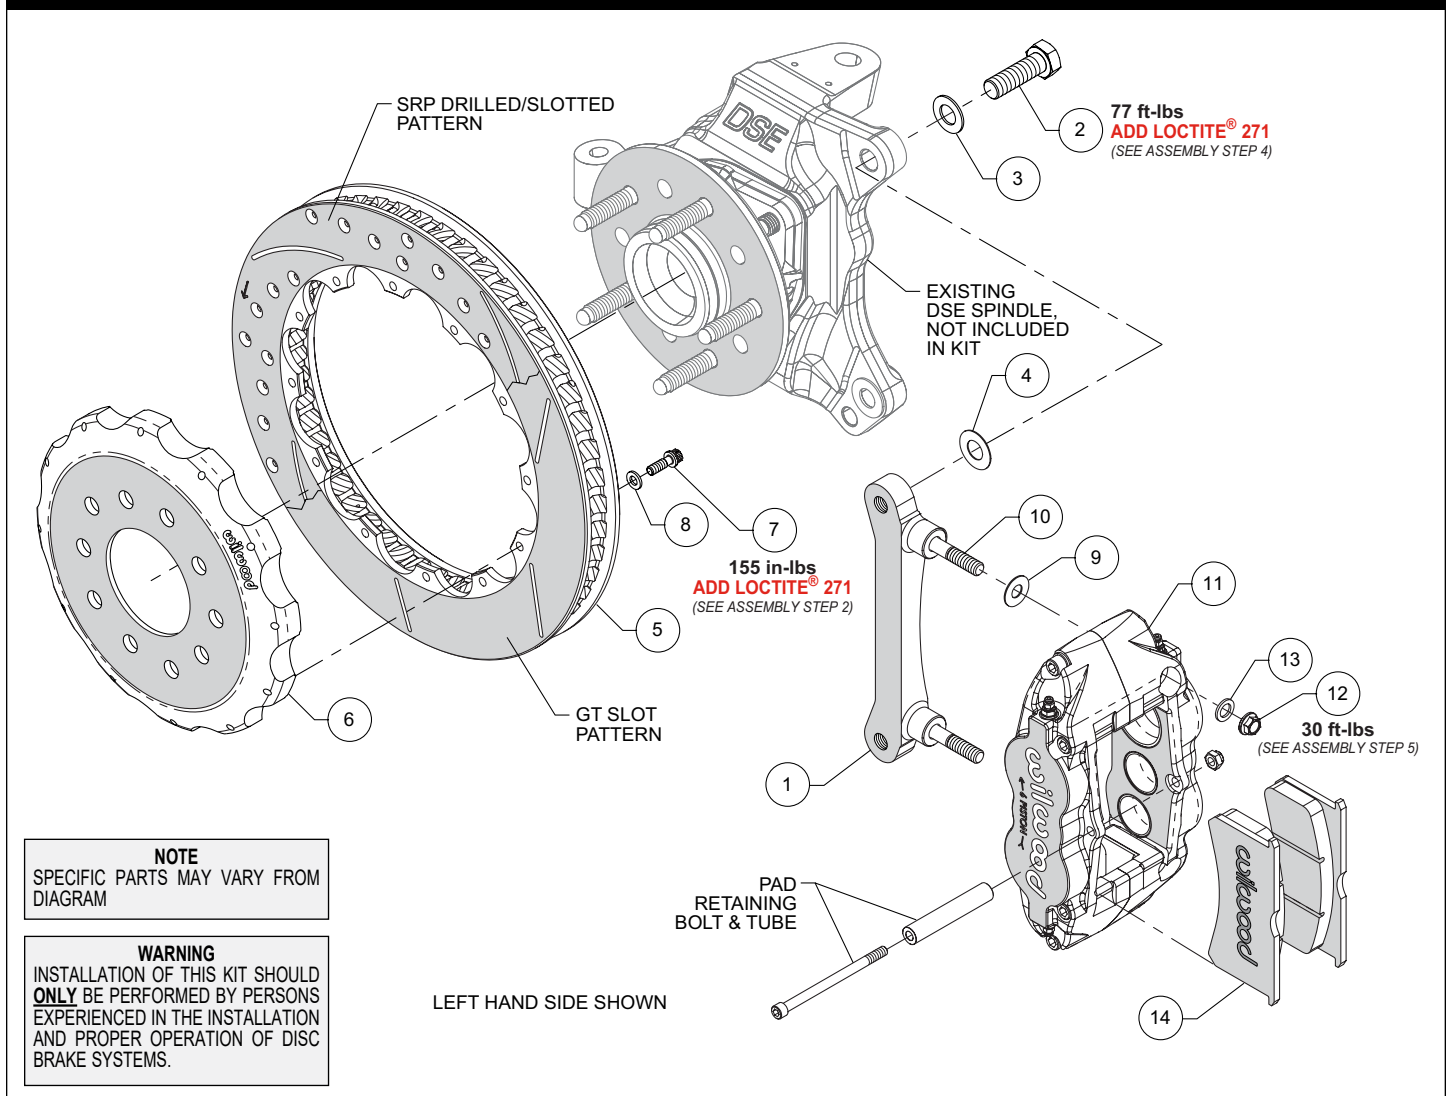
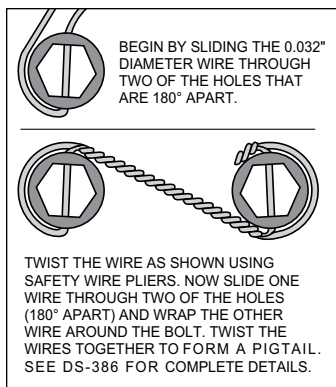

Figure 1. Typical Installation Configuration
Figure 3.
**NOTE:** Numbers in parenthesis refer to the parts list and Figure 1 on the preceding pages.
**STEP 1** The caliper mount bracket (1) should initially be installed with clean, dry threads on the mounting bolts. Orient the bracket as shown in Figure 1 and Photo 1, and install using bolts (2) and washers (3). Initially place one .029" thick shim (4) on each bolt between the bracket and upright, Figure 1 and Photo 2. Temporarily tighten the mounting bolts. **NOTE:** The bracket must fit squarely against the mount bosses on the upright. Inspect for interference from casting irregularities, machining ridges, burrs, etc. Later, after the caliper alignment has been checked, the mount bolts will be secured using red *Loctite*® 271.
**STEP 2** Orient the rotor (5) and the hat (6) as shown in Figure 1 and Photo 3. Attach the hat to the rotor using bolts (7) and washers (8). Apply red *Loctite*® 271 to the bolt threads and torque to value shown in Figure 1 using a criss-cross pattern. For an added measure of security, the bolts may be safety wired using standard 0.032 inch diameter stainless steel safety wire as shown in Figure 3. Please refer to Wilwood's data sheet DS-386 (available at [www.wilwood.com/Pdf/DataSheets/ds386.pdf](http://www.wilwood.com/Pdf/DataSheets/ds386.pdf)) for complete safety wire installation instructions.
**STEP 4 NOTE:** This kit contains distinct right and left hand calipers that must be mounted in a specific direction, as described below. Initially place one .035" thick shim (9) on each stud (10) as shown in Figure 1 and Photo 5. Mount the caliper (11) onto the bracket (1) using lock nuts (12) and washers (13), Figure 1. Ensure that the caliper is mounted so that the largest pistons are at the rotor exit end of the caliper, in relation to the direction of rotor rotation. Temporarily tighten the lock nuts and view the rotor through the top opening of the caliper. The rotor should be centered in the caliper, Photo 6. If not, adjust by adding or subtracting shims (4) between the bracket and the upright. Always use the same amount of shims on each of the two mounting bolts. Once the caliper alignment is correct, remove the bracket mounting bolts (2) one at a time, apply red *Loctite*® 271 to the threads, and torque to value shown in Figure 1.
**STEP 5** Remove the caliper center bridge pad retainer bolt, nut, and tube from the caliper. Insert the brake pads (14) into the caliper, with the friction material facing the rotor, as shown in Photo 7. Check that the top of the brake pad is flush with the outside diameter of the rotor, Photo 8. If not, adjust by adding or subtracting shims (9) between the caliper and the bracket. After the caliper pad height is set, torque the caliper lock nuts (12) to value shown in Figure 1. Secure the brake pads in place with the center bridge pad retainer tube, bolt, and locknut, Photo 9. The locknut should be snug without play in the bolt or tube. Be cautious not to over tighten.